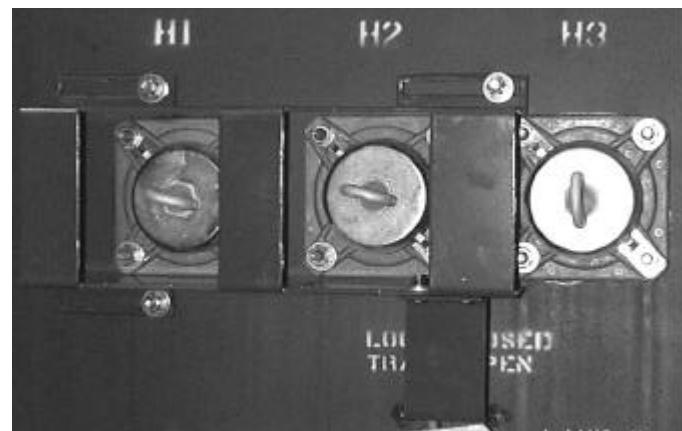

Figure 6. Safety baffle moved from over the fuses.
Nonloadbreaking fuseholders are mechanically interlocked with a loadbreak switch; be careful not to defeat this arrangement. When the transformer is deenergized by operation of the loadbreak switch, the safety baffle can be moved, permitting access to the fuses, as shown in Figure 6.
1. **Deenergize the transformer.** Open the loadbreak switch to deenergize the transformer and allow the safety baffle to be released for access to the fuseholders, as shown in Figure 6.